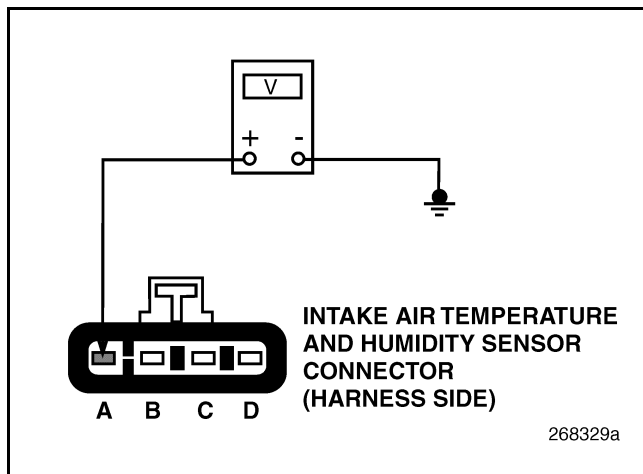

Figure 317
4. Measure the voltage between IATH Sensor harness connector pin A (reference voltage line) and a good ground (see Figure 317).